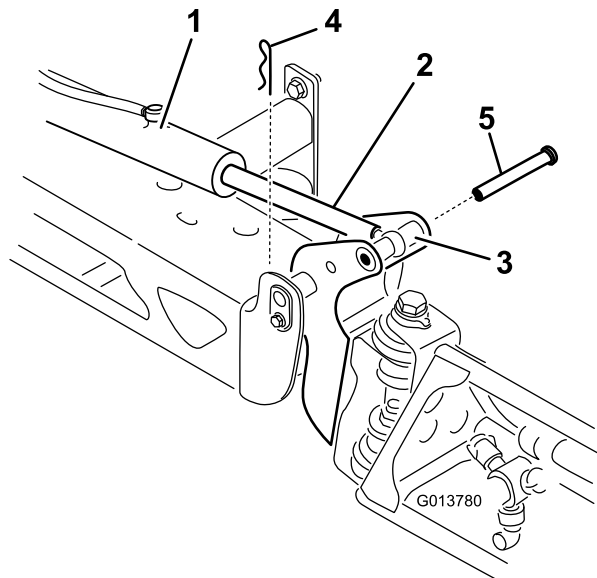

Figure 93
2. Remove the cotter pin from the pivot pin (Figure 93).
3. Lift up on the boom, remove the pin, and slowly lower the boom to the ground (Figure 93).
8. While holding the boom, insert the pin through the boom pivot and actuator rod (Figure 93).